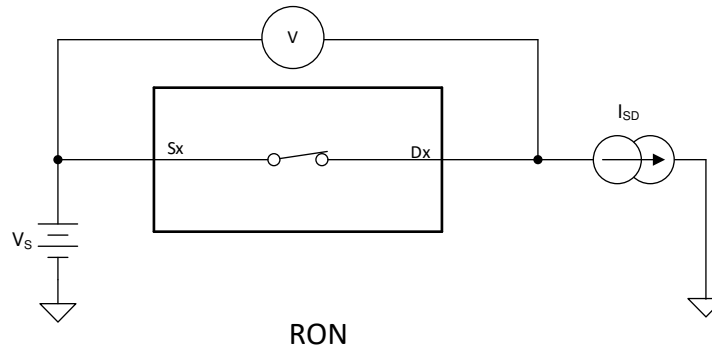

Figure 7-1. On-Resistance
The on-resistance of a device is the ohmic resistance between the source (Sx) and drain (D) pins of the device. The on-resistance varies with input voltage and supply voltage. The symbol  $R_{ON}$  is used to denote on-resistance. Figure 7-1 shows the measurement setup used to measure  $R_{ON}$ . Voltage (V) and current ( $I_{SD}$ ) are measured using the following setup, where  $R_{ON}$  is computed as  $R_{ON} = V / I_{SD}$ :